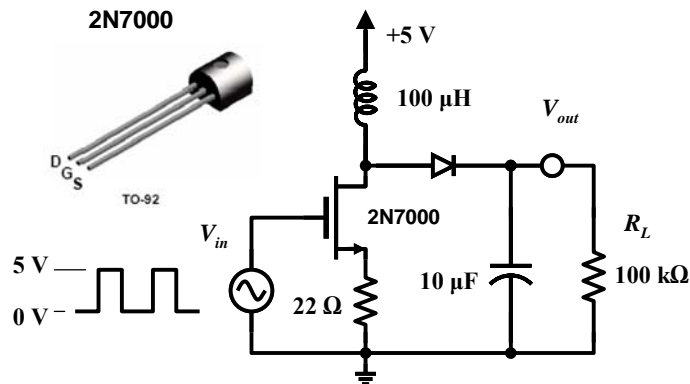

Figure 4-10 – DC-DC Boost converter
from a smaller one with very high efficiency. The basic idea is to combine the inductive spike generator with a rectifier circuit, as shown in Figure 4-10. Whenever the drain voltage spikes up, the diode is forward biased and current will flow to charge up the big storage capacitor. When the drain voltage subsequently drops below the capacitor voltage, the diode is reverse biased and the output voltage stays constant. Just as in the power supply from Lab #2, the output capacitor must be sized appropriately to minimize the droop relating to current flow in the load. We will just use a small capacitor here and hence the circuit will not be able to source much output current.
- Build the circuit in Figure 4-10. Note the +5V supply. You can use a 1N4005 or a 1N4148 for the rectifier diode. Start with a load resistance of 100k Ω and a switching frequency of 10kHz. What DC output can you obtain?